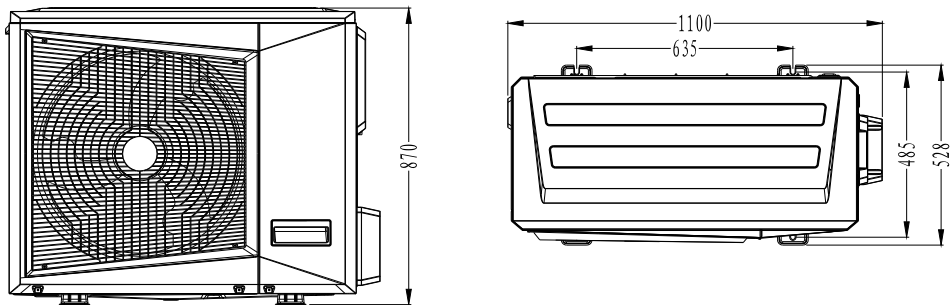

Fig. 3-1 Dimension of Outdoor Unit
1) Fig. 3-1 is applicable for models of 12.5kW(200V-220V),14kW,16kW.